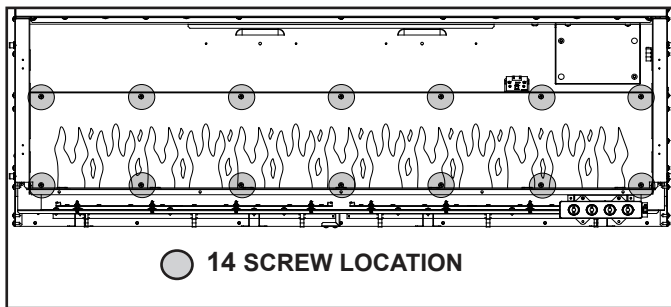

Figure 16. Flame Screen Location
- Remove 14 Phillips screws at the top and bottom of the flame screen. See Figure 16.